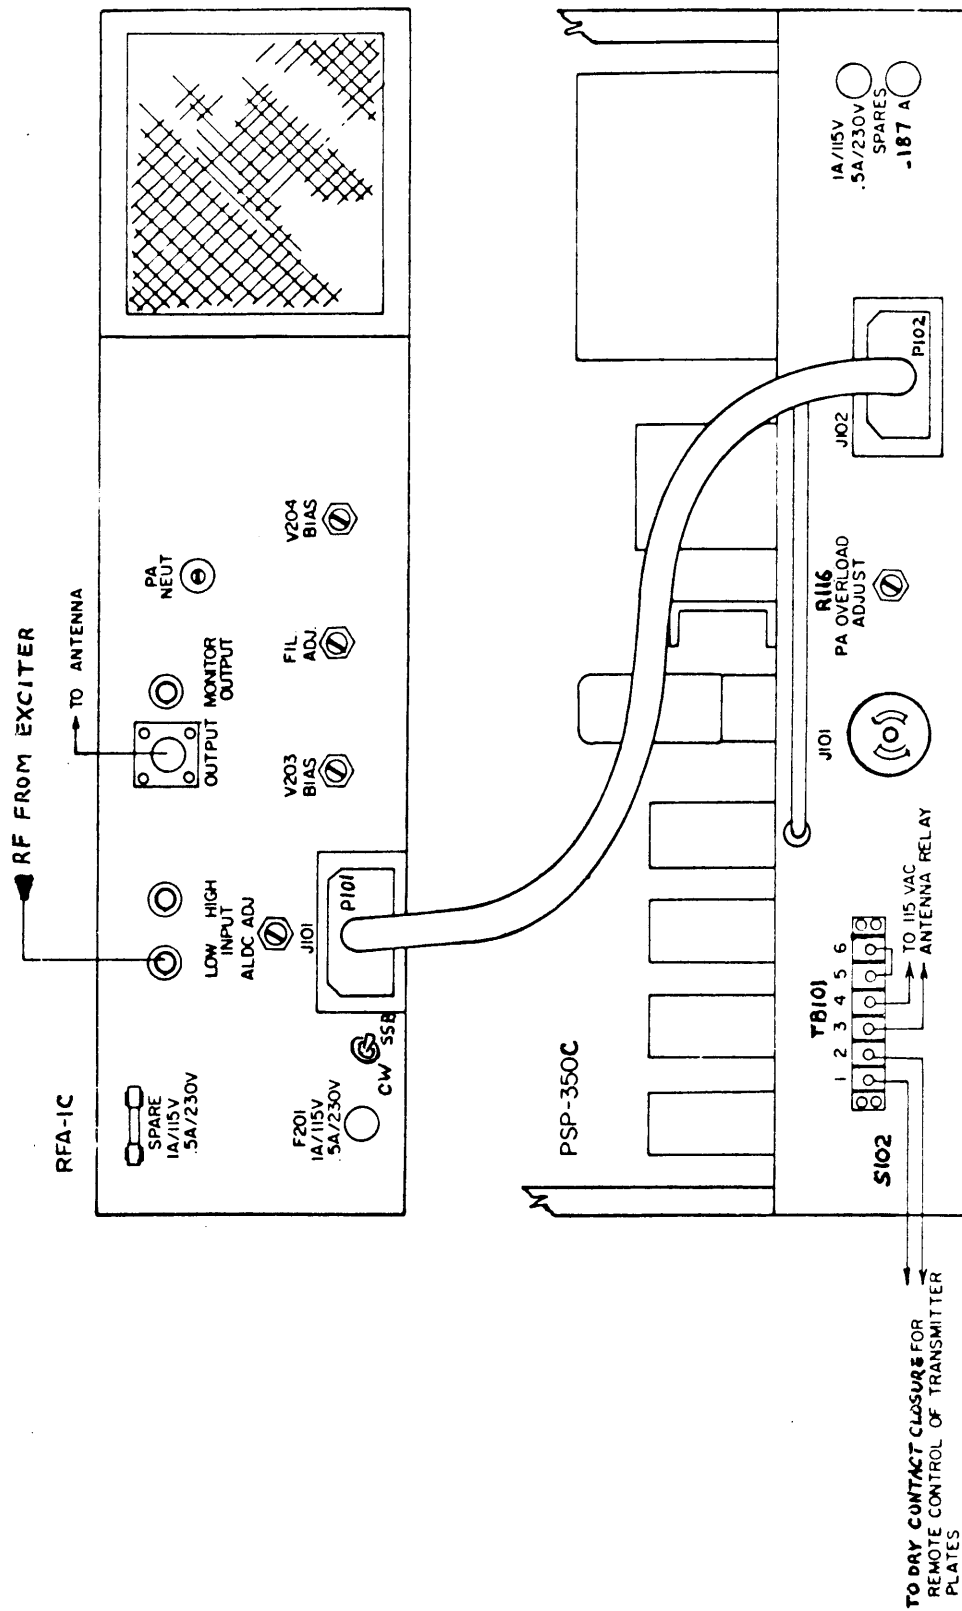

Figure 2-1. Rear Panel Connections and Adjustments
Figure 2-1 provides information for interconnection between RFA and PSP, and rear panel connections of both units comprising the PAL.
- b. Set AC LINE switch (9) at ON.
c. Set MULTIMETER switch (6) at PA FIL. MULTIMETER (7) should read at "FILADJUST" mark (equivalent to 6 volts). If it does not, FIL. ADJ. on rear of RFA chassis shown in figure 2-1 must be adjusted.
d. Set DRIVER-BAND switch (1) to the range covering the desired output frequency.
- f. Set MULTIMETER switch (6) at RF DR.
- h. Approximate the DRIVER-TUNING control (2) position by use of table 3-2.